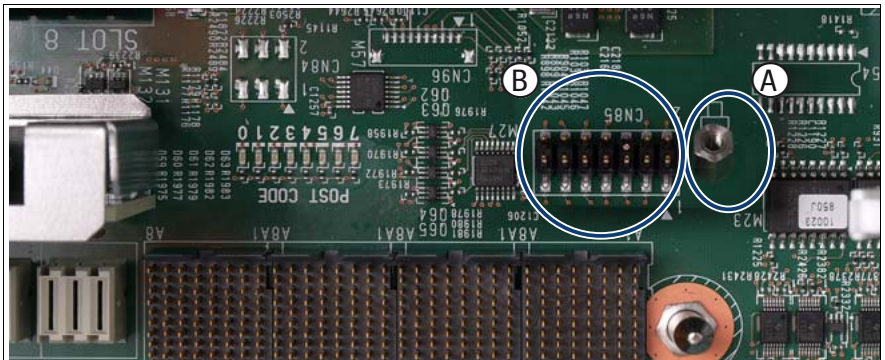

Figure 169: Checking the installation position
- ▶ Place the TPM board on the metal spacer (A) and socket (B) in figure 169 and fasten it with the Phillips screw.